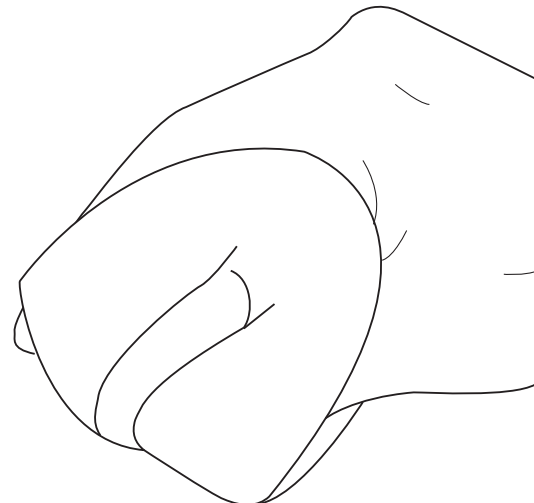

Figure 7-12
- Squeeze the filters to remove any excess oil (see Figure 7-12).